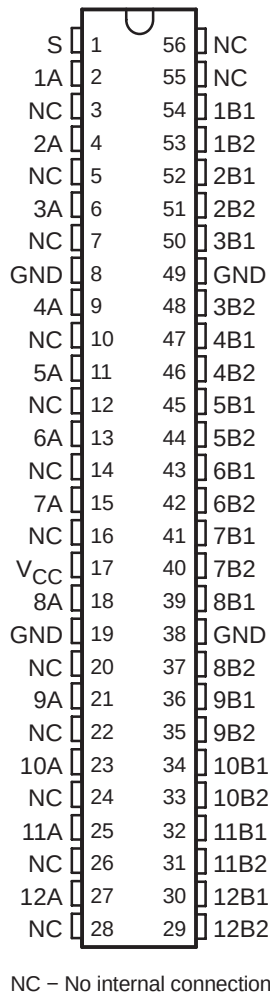

Figure 1. Pinout for SN74CBT16292, SN74CBT162292, SN74CBTLV16292, and SN74CBTLV162292 Devices
The devices discussed are members of the TI Widebus™ family, which are manufactured using TI's enhanced-performance implanted CMOS (EPIC™) submicron process. Each of these devices is a 12-bit 1-of-2 FET multiplexer/demultiplexer with 500- Ω internal pulldown resistors (R_{INT}). The pinout is the same for each device (see Figure 1). SN74CBT16292 and SN74CBT162292 are designed for 4-V to 5.5-V V_{CC} operation. SN74CBTLV16292 and SN74CBTLV162292 are designed for 2.3-V to 3.6-V V_{CC} operation. The low on-state resistance (4 Ω) of the switch allows connections to be made with minimal propagation delay. When the select (S) input is low, port A is connected to port B1 and port B2 is pulled down through R_{INT} to ground. When S is high, port A is connected to B2 and R_{INT} is connected to port B1 (see Table 1 and Figure 2).